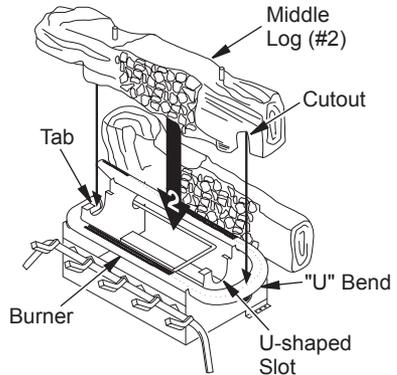

Figure 30 - Installing Middle Log (#2)
2. Place base of middle log (#2) in U-shaped slots of grate base in front of back log. Cutout on right of middle log should fit over burner (see Figure 30). Make sure front of middle log is resting on tabs of grate base and cutout area is centered over burner "U" bend.